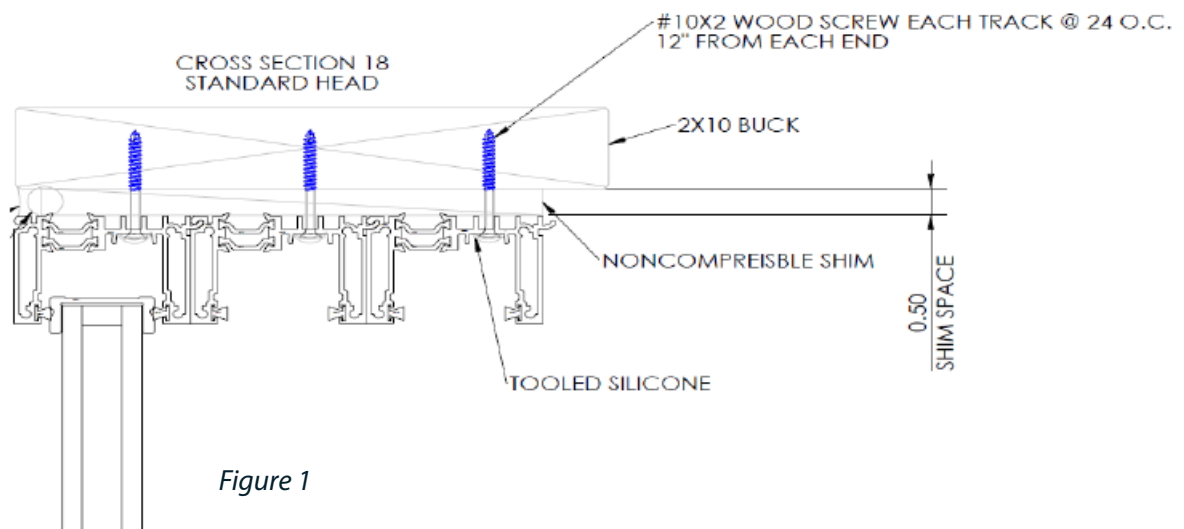
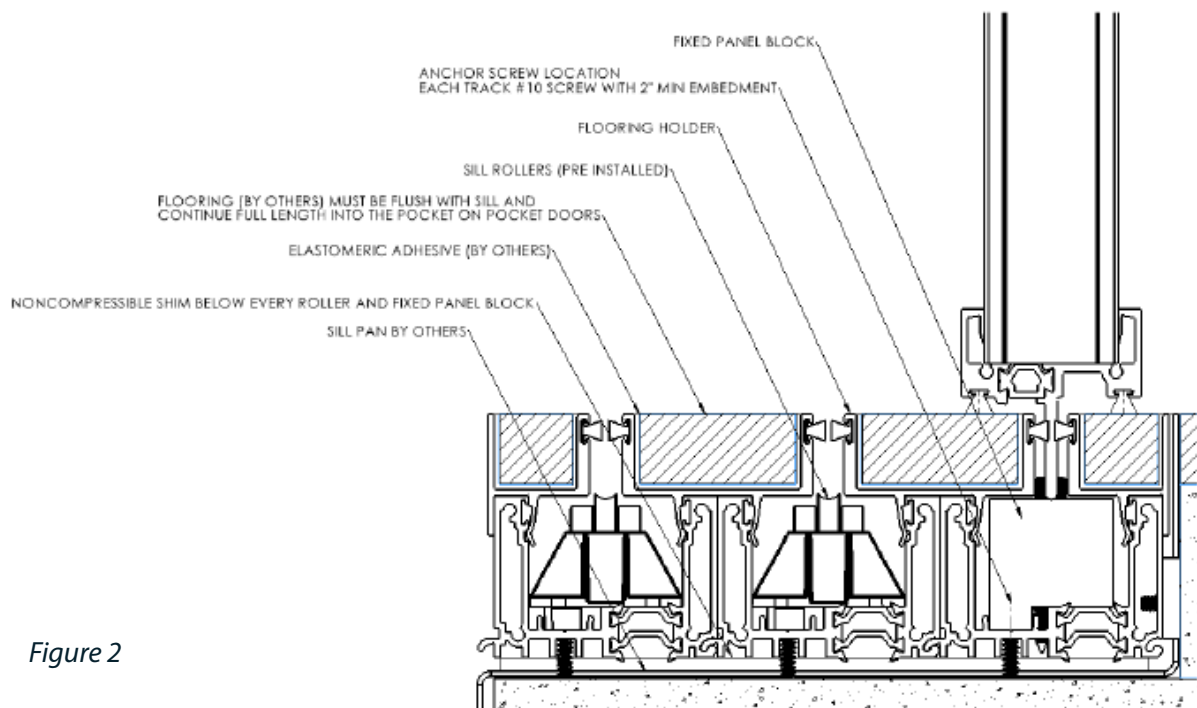

Figure 1
Figure 2
- Frame Head – holes should be drilled 12" from each end and every 24" on center per track. See **Figure 1**. Sill – holes should be drilled 6" from each end and every 24" on center per track. See **Figure 2**.